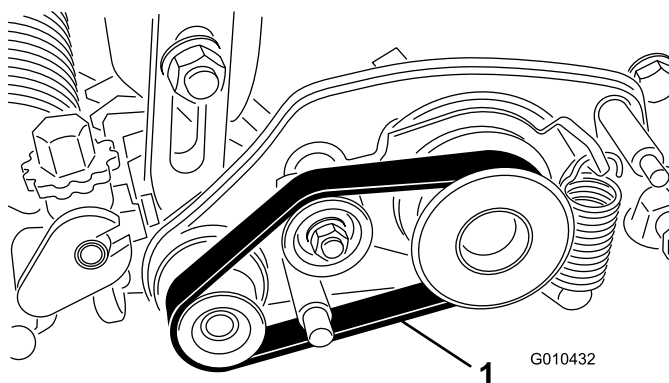

Figure 29
2. Remove the belt from the driven pulley, idler pulley, and pulley assembly (Figure 29).